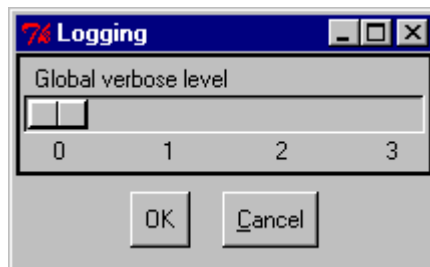

Figure 4-11. Global Verbose Dialog Box
1. *Click* on the Verbose Levels option from the appropriate menu. The Verbose Setting dialog box appears. Figure 4-11 shows the dialog box used for setting the verbose levels: